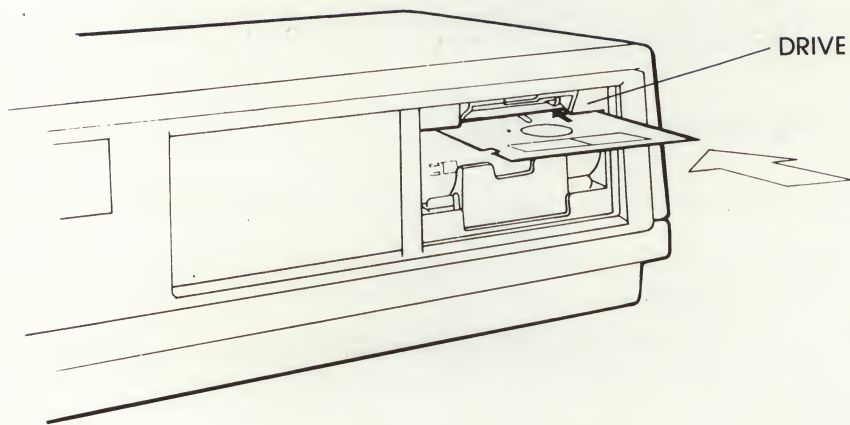

Figure 6 Insert System Diskette Into Drive A
- 3 Insert the CP/M installation diskette into drive A but *do not close the drive door* (see Figure 6). Make sure the arrow on the diskette lines up with the colored bar on drive A.